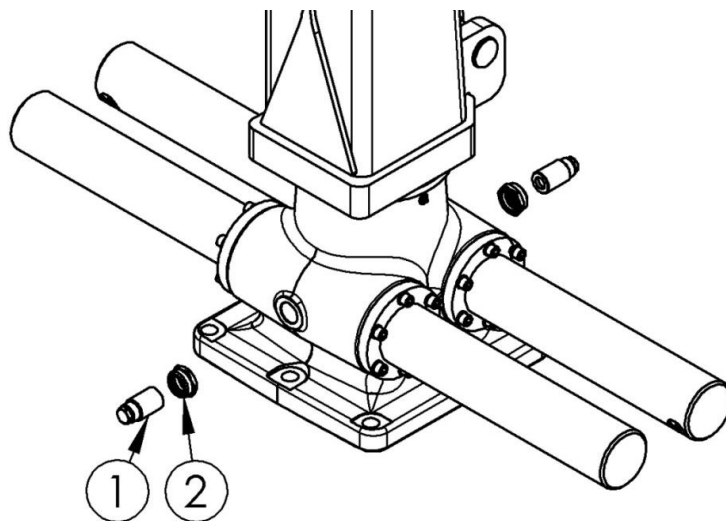

Figure 9. Adjusting racks of slewing device
- Release the locking nut widely enough, so it will not obstruct tightening (pos. 2 fig. 9).
- Tighten the bolt (pos. 1, fig. 9) against the gear rack with 20-25 Nm (2-2,5 kg*m).
- Tighten the locking nut (pos. 2 fig. 9).
2. Ensure that the slewing device is in horizontal position, as shown on fig. 9.
3. Release the lock nut (pos. 2, fig. 9).
4. Remove the bolt (pos. 1, fig. 9).
7. Tighten the lock nut according to manual's point 9.2 (pos. 2, fig. 9).